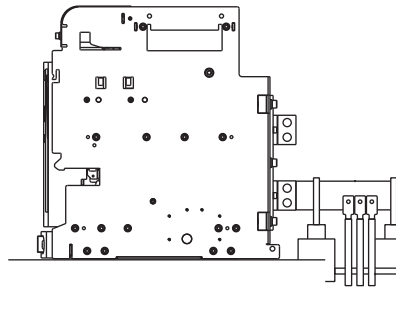

Fig. 2
- When connecting several cables, it is necessary to fasten them together and secure on the frame of a fixed structure (Fig. 2).